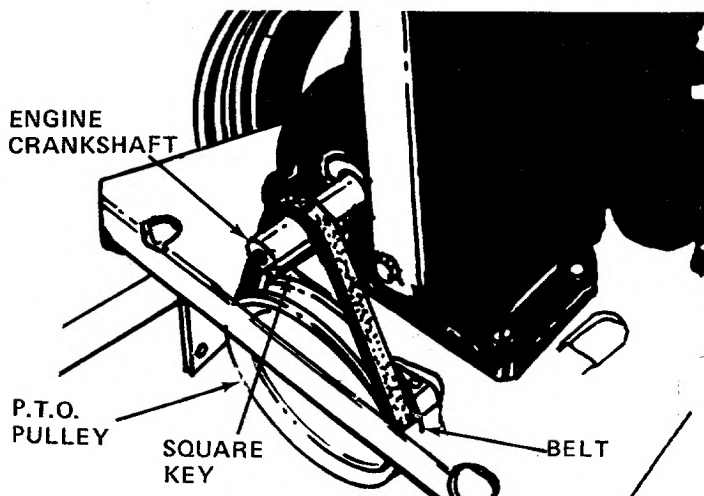

FIGURE 20
5. Slide belt off the impeller pulley. Slide housing and impeller off engine crankshaft. Be careful to not lose square key. See figure 20.
7. Remove belt from P.T.O. pulley and install new belt. See figure 20.